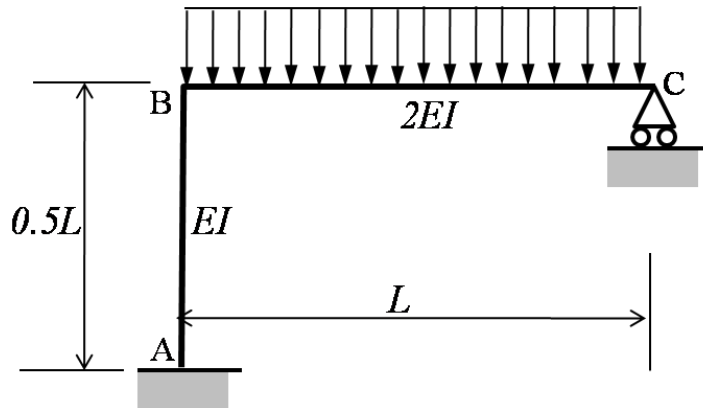

Figure 2
2. (a) Using method of least work, determine the reaction at support C for the frame shown in **Figure 2**.